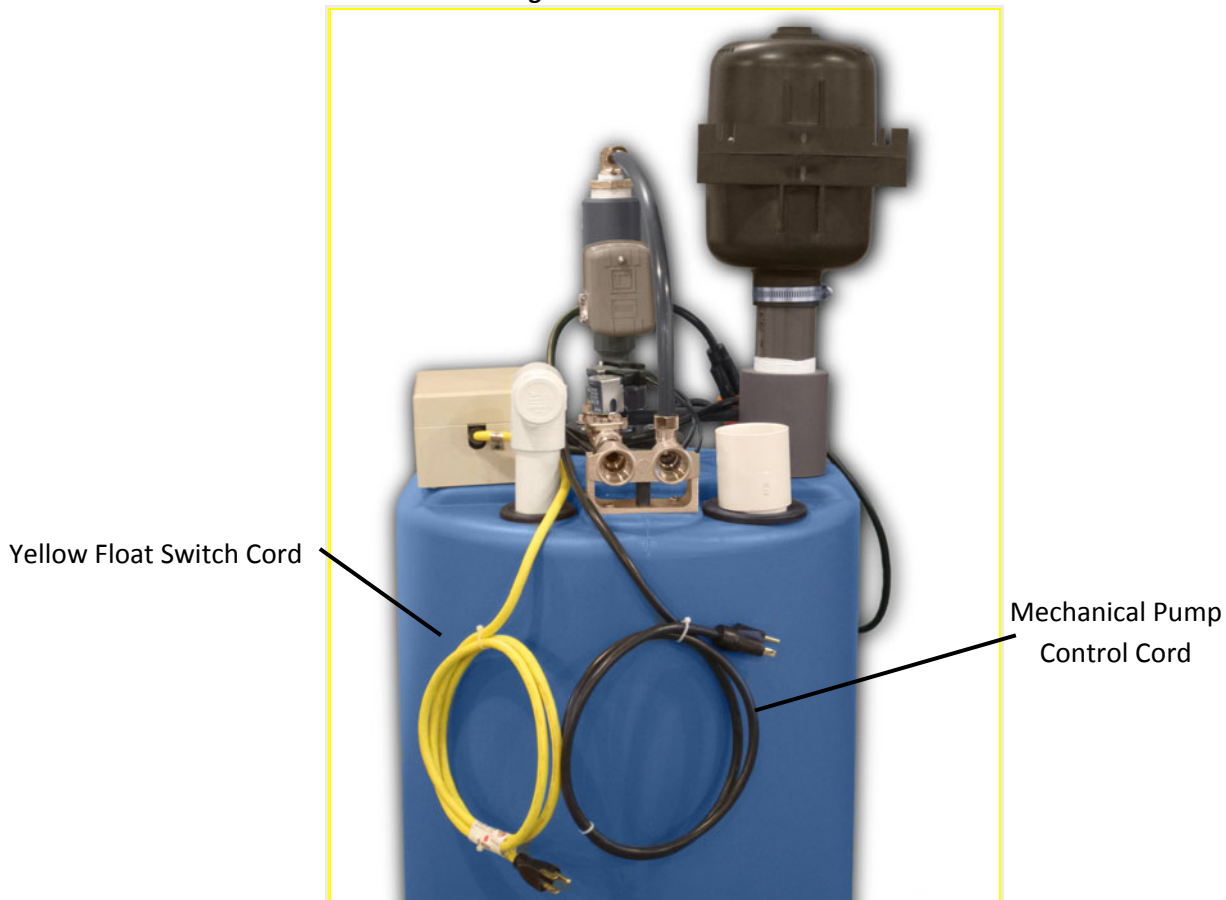

Figure 5 - Power Cords
2. Before plugging in the Windsor, identify the plug-in cords. See Fig. 5.